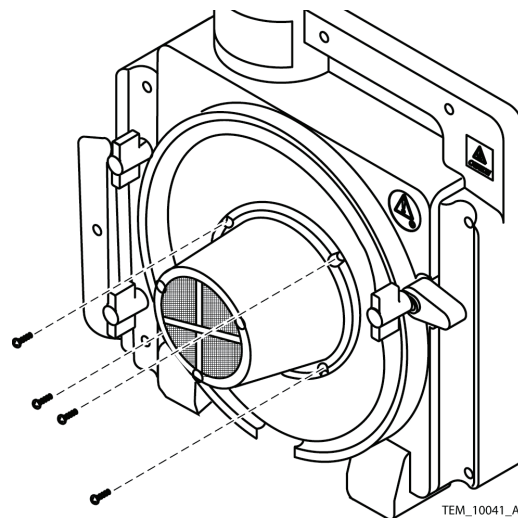

Figure 67. Blower Assembly Screws
21. Remove the screws holding the blower assembly to the rear cover assembly. See Figure 67.